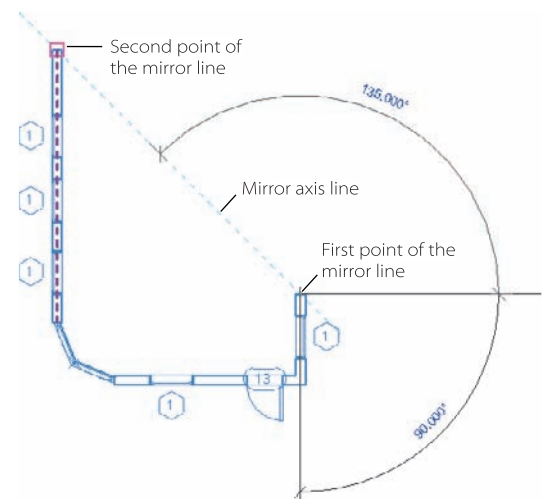

Figure 3.28
1. Select the elements that you want to mirror (Figure 3.28).